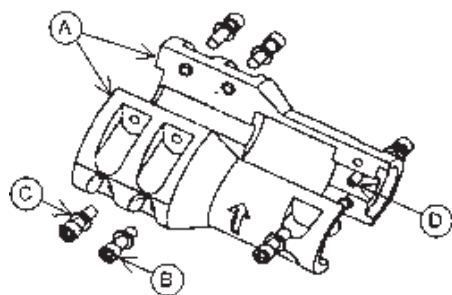

Figure 3: Motor Coupling
2. Secure the motor to the motor adapter with the (4) hex head bolts supplied with pump. See the “Engineering Data” section on page 8 of this manual for the proper torque value.
3. Disassemble the coupling (supplied with pump) by removing the (6) socket head screws and machine washers between the coupling halves (see Figure 3). Retain bolts and dowel pin for reassembly.